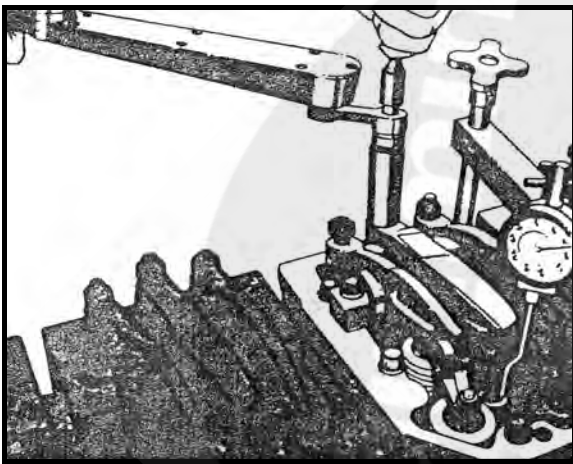

Fig. 2-19 Tighten locknut using ST-669
**Note:** When ST-669 is used, tighten the lock nut to 30 to 35 ft-lb [41 to 47 N.m] torque (Fig.2-19).